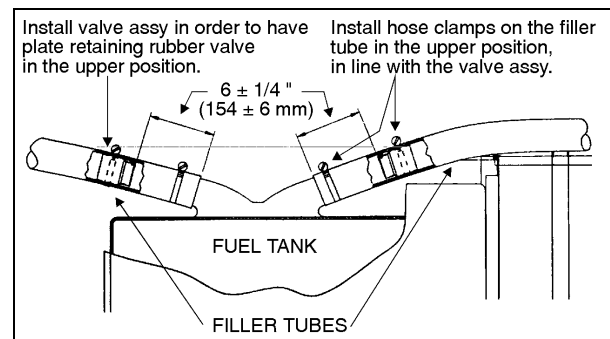

FIGURE 6: FUEL TANK AND FILLER TUBES
**Note:** Fastening of rubber flap must always be on top, in line with clamp screw (Fig. 6).
**Note:** Insert check valve assembly in right side filler hose (Fig. 6), use hose clamp to fix it. Repeat with left side filler hose.